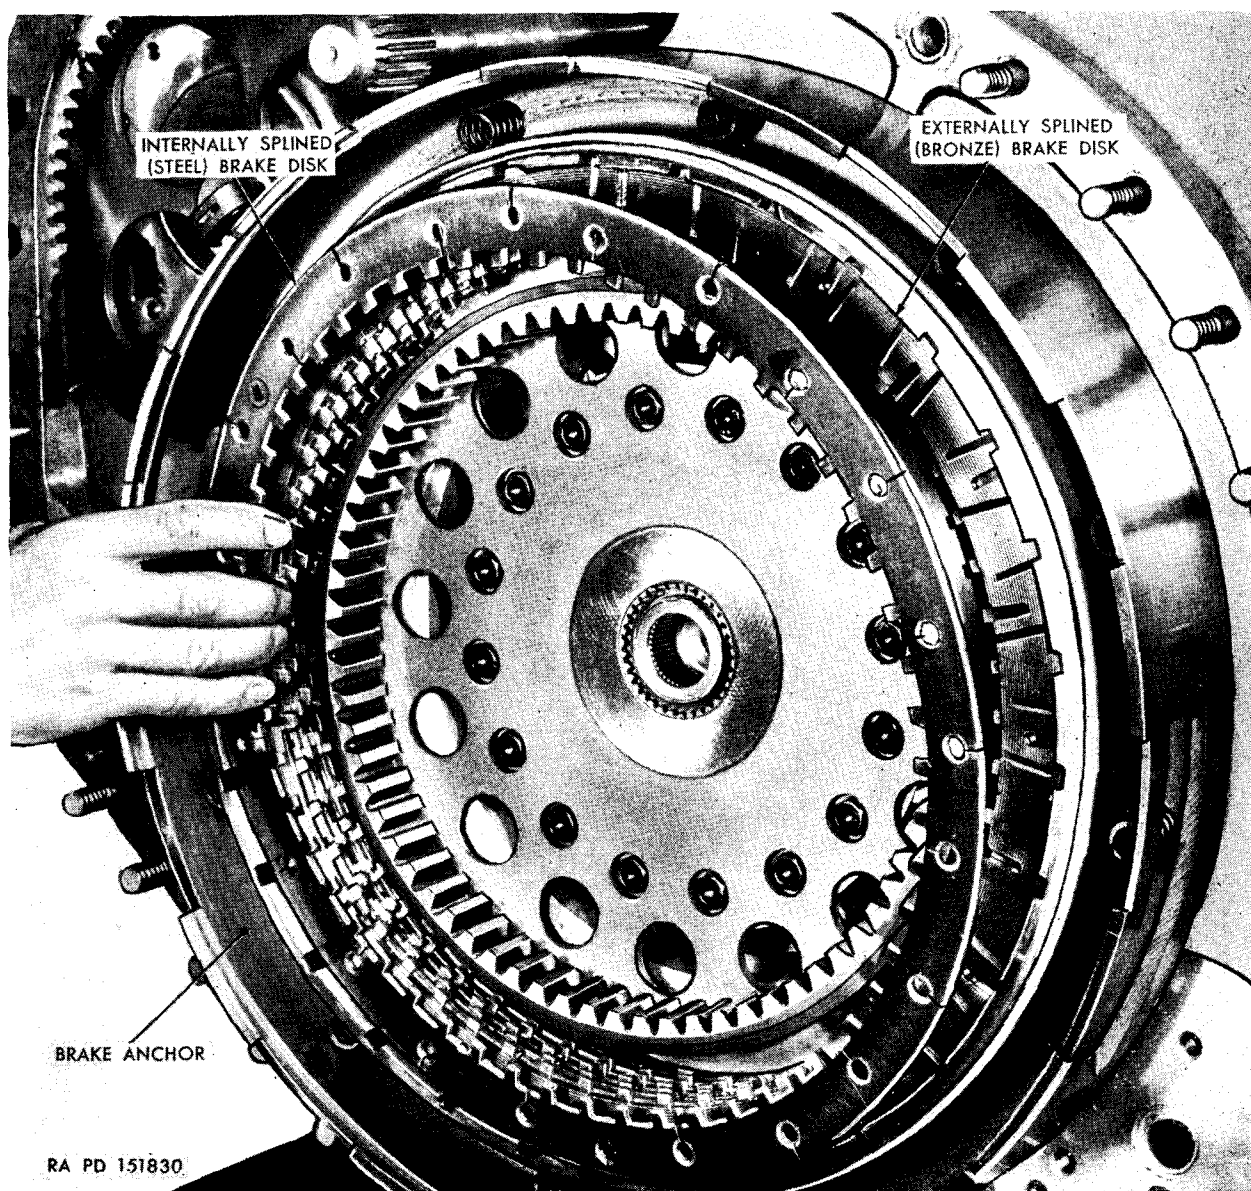

Figure 91. Removing or installing brake disk pack.
- (10) Lift out the brake disk pack (fig. 91).
- (11) Remove the 10 brake plate release springs.
- (12) Remove the two flat-head countersunk